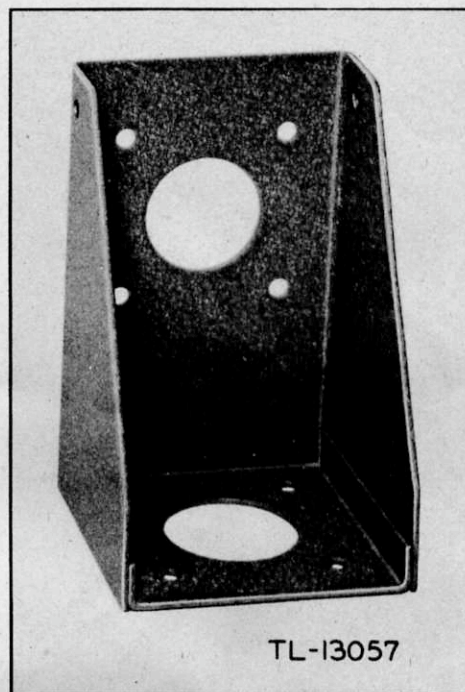

Figure 6. Mast Bracket MP-50.
12. MAST BRACKET MP-50. Mast Bracket MP-50 (fig. 6) is a heavy steel bracket for mounting Mast Base MP-65 to the vehicle. It offers a choice of two positions for the mast base.